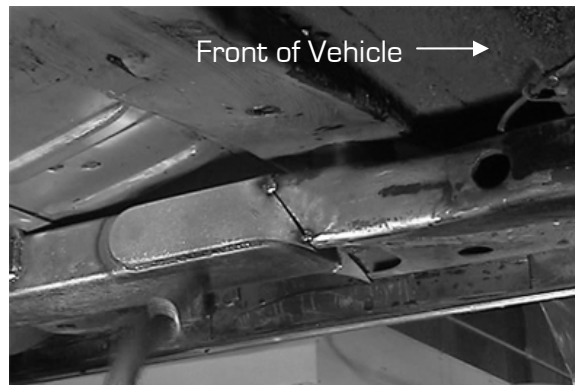

Figure 13
17. With the connector back in position, begin by only tack welding the connector to the rear rail and the front subframe. (Figure 13)